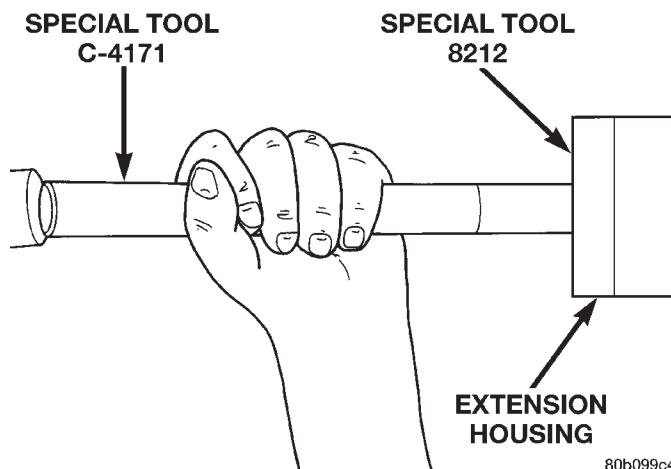

Fig. 14 Install Extension Housing Seal
- (1) Clean seal bore of extension housing of any residual sealer material from original seal.
- (2) Using Tool Handle C-4171 and Seal Installer 8212, install new extension housing seal so that the seal is located 0 ± 0.5 mm (0 ± 0.02 in.) to the face of the extension housing (Fig. 14).
- (3) Install propeller shaft. Refer to Group 3, Differential and Driveline, for proper procedures.
- (4) Check and add fluid to transmission as necessary. Refer to the Recommended Lubricant section for proper fluid requirements.
- (5) Lower vehicle.